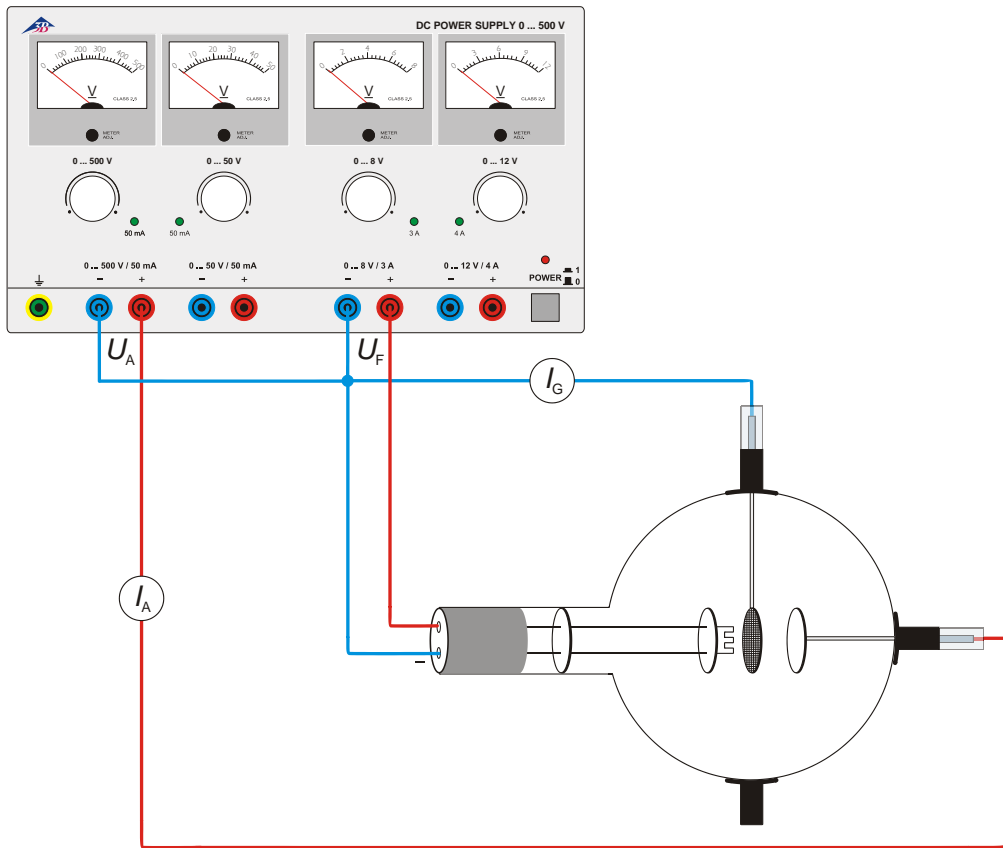

Fig. 1 Evidence of positive charge carriers
- Set up the circuit as in fig. 1.